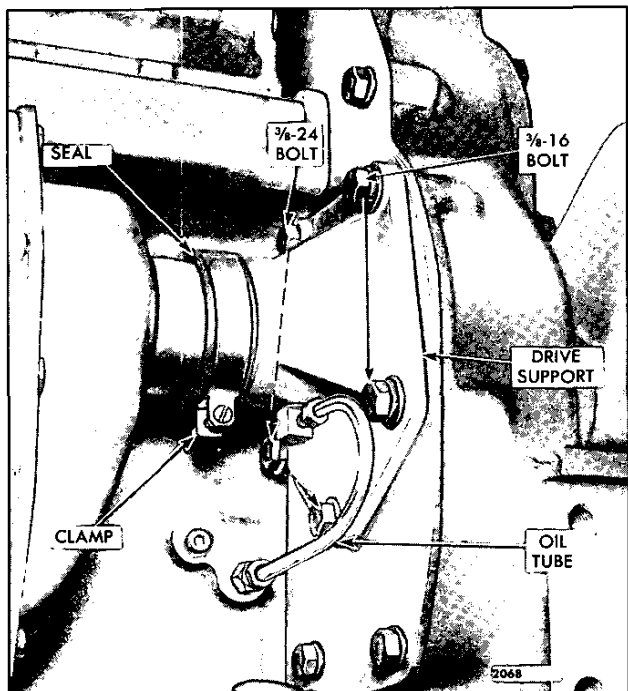
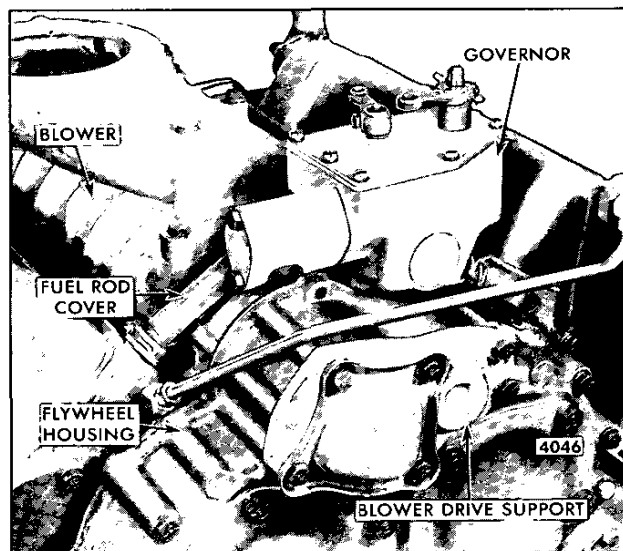

Fig. 1 - Blower Drive Support Mounting on 4-53 In-line Engine
Fig. 2 - Blower Drive Support Mounting on 6V-53 Engine
The blower drive gear is driven by the camshaft gear (4-53 engine) or the left-bank camshaft gear (6V-53 engine). The gear is keyed and pressed on a shaft which is supported in the blower drive support. This support, on a 4-53 engine, is attached to the rear end plate on the blower side of the engine (Fig. 1). On a 6V-53 engine, the blower drive support is mounted on the flywheel housing (Fig. 2).
2. Refer to Fig. 1 and loosen the blower drive seal clamp.
2. Disconnect the lubricating oil tube from the blower drive support (Fig. 1).